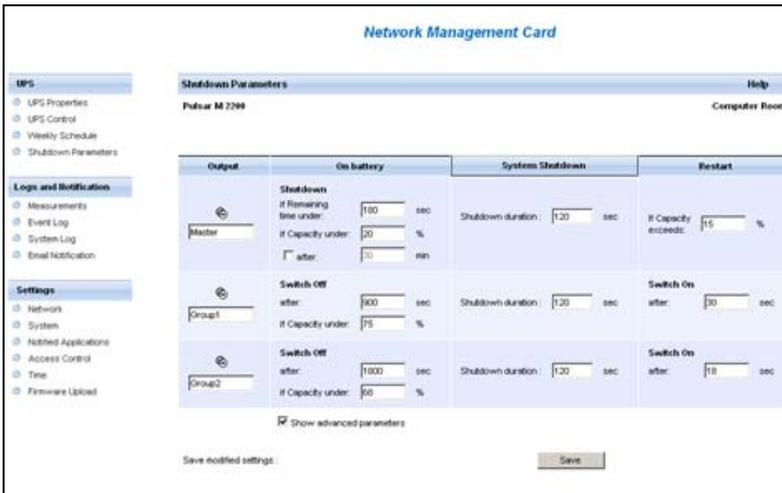

Figure 119. Network Management Card Web Interface
- For Network-MS (example, 66102/103006826) and Modbus-MS (example, 66103), the default configuration for the Network Management Card shutdown configuration is available from **UPS > Shutdown Parameters** (see Figure 119).